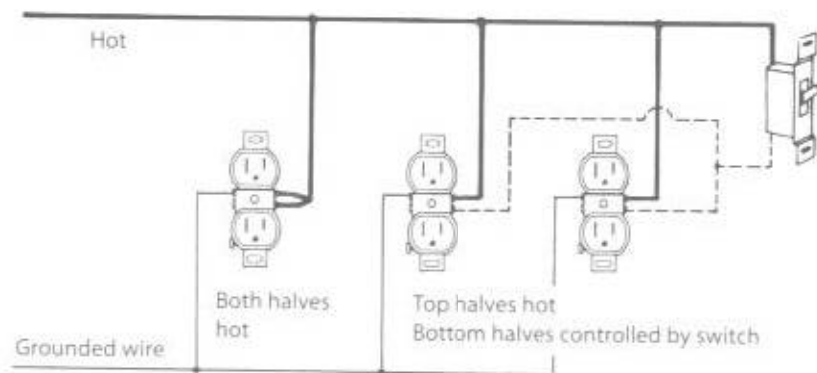

Fig. 10-12 Two-circuit receptacles are well worth the extra cost.
It can be convenient to have a floor lamp or table lamp plugged into a receptacle controlled by a wall switch. These two-circuit duplex receptacles (also called split-wired receptacles) meet the NEC requirement for switch-controlled lighting in habitable rooms other than kitchens and bathrooms. Many brands of ordinary duplex receptacles are constructed so you can, during installation, change them to the two-circuit variety by breaking out a small brass portion between the two "hot" (brass colored) terminal screws. The wiring diagram is shown in Fig. 10-12. Actually, as the drawing makes clear, using a split receptacle in this way does not place it on two different circuits, because the same circuit breaker or fuse ultimately supplies both halves of the duplex receptacles shown. If that is not the case, new NEC rules have made the installation much more problematic.
**Installing split-wired receptacles on three-wire circuits** The split-wired (also called two-circuit) receptacle shown in Fig. 10-12 can also be installed on the three-wire circuit, wired with one half on phase *A*, the other on phase *B* (Fig. 10-15), and a common neutral. This is often done in the kitchen, where two small-appliance receptacle circuits are required. Be sure that the branch-circuit disconnecting means at the panelboard opens both hot wires with a single operation of the hand so that future maintenance at these outlets can be done safely.